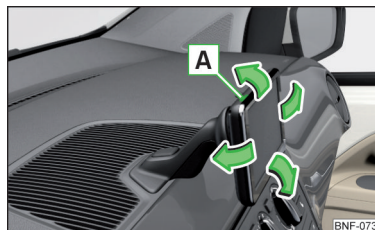

Fig. 86
You can **set** the tilt to the required position by gently moving the device in the direction of the arrows » Fig. 86 » **!**.
- In order to **access the Owner's Manual**, switch on the device by pressing button **A** » Fig. 86.